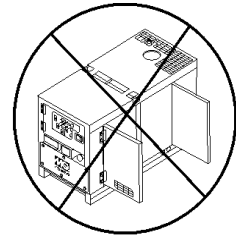

**Figure 33. Battery Connections**
3. Connect the negative battery cable (BLACK) to the negative post on the battery (Figure 33).